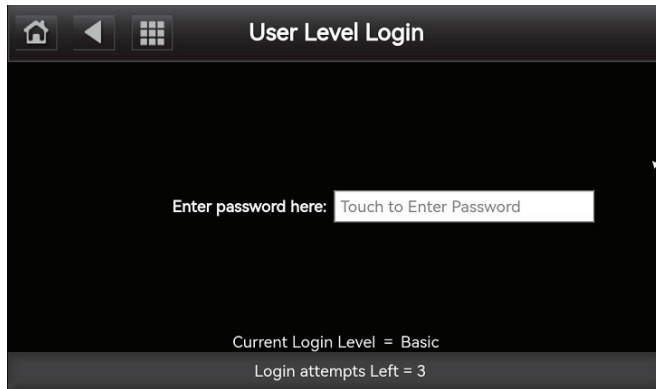

Fig. 14 — User Login Screen
- **User** — The User access level authorizes access to modify the Setpoint Configuration and some Configuration Menu parameters, as well as access to all menus accessible with the Basic mode. See menu structure on page 22. The default password for User level access is 1111. To change the User access password, the user must first be logged in to User or higher level and go to **Login Menu** → **User Login** → **Change User Password**, then enter the old password and the new password. Confirm the new password, then press the Save button. After pressing the Save button, a pop-up window will indicate that the user password was changed successfully. Press OK to continue. See Fig. 14 for an example of the user login screen.